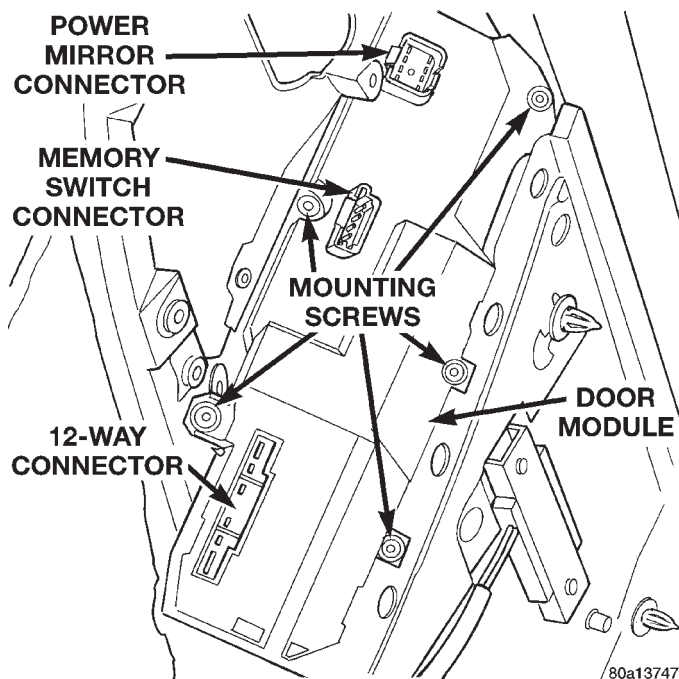

Fig. 3 Door Module Remove/Install
(8) Pull the front door trim panel away from the inner door panel far enough to access and unplug the wire harness connectors from the door module and, if the vehicle is so equipped, from the front door courtesy lamp.
(9) Remove the five screws that secure the door module to the back of the front door trim panel (Fig. 3).